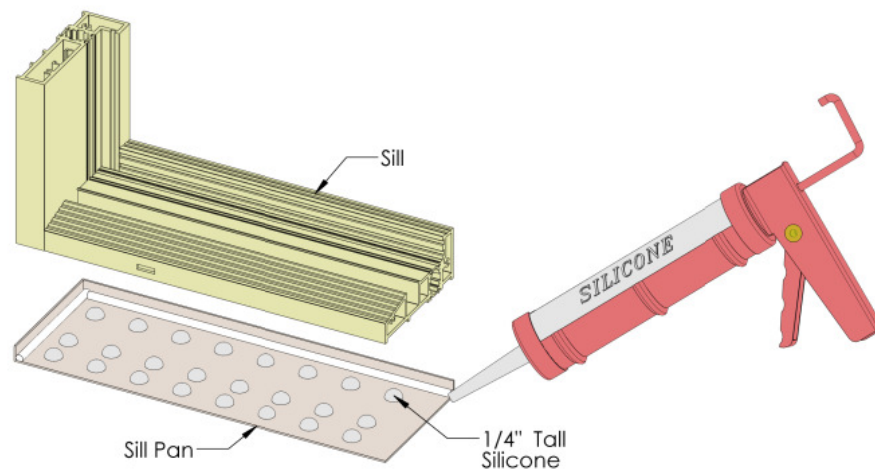

Figure 11:
7. Apply a 1/4" bead of sealant along the sides and back of the sillpan. Continue to add equivalent beads of sealant along the pan spaced about 1" apart until pan is evenly covered. Fleetwood recommends the use of a structural sealant such as DOW 995 or equivalent for sealant at sill (Figure 11).